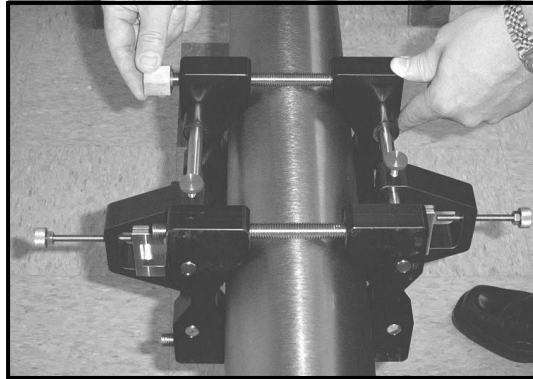

Figure 8: Installing Nuts onto the Fixture
3. Install the four nuts onto the threaded rods with the convex side of the nut facing the fixture. Hand tighten the nuts on each V block evenly, as shown in *Figure 8*. Do not use a cross tightening pattern on the four installation nuts.